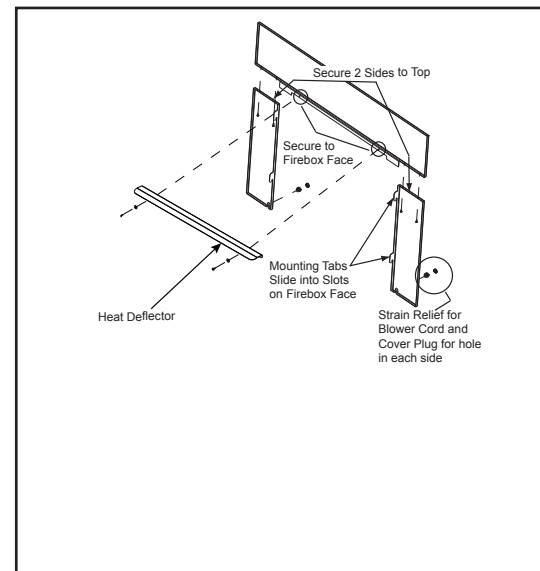

Figure 21.2
2. Using a 102 to 152 mm long Phillips head screw driver attach the side surrounds to the top surround using (2) #8 sheet metal screws on each side provided with the kit. **Figure 21.2.**
5. Slide the assembled trim set over the surround set. and then over the appliance matching the mounting tabs on the side pieces with the slots on the appliance. **Figure 21.2.**
6. Align the 2 screws in the top surround piece to the 2 alignment holes on the appliance top. Secure in place. **Figure 21.2.**